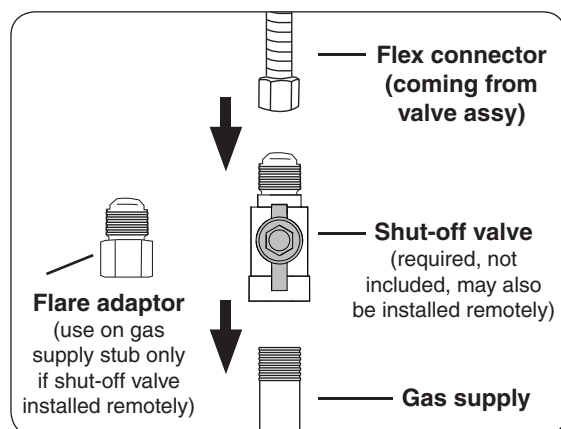

Fig. 17-3 Connecting to a gas line
- Connect the flex connector to the shut-off valve (see Fig. 17-3). Tighten securely.
- Install the supplied flare adapter to the gas supply using a pipe joint compound resistant to all gasses (see Fig. 17-3). Tighten securely.
- Connect the flex connector to the flare adapter (see Fig. 17-3). Tighten securely.